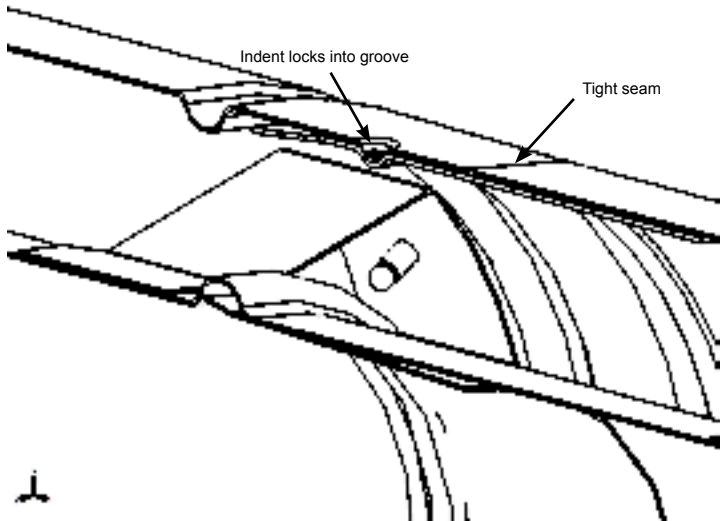

Figure 10
- The joint is not sealed unless the seam between the two outer sections of pipe is tight and the indent locks into the groove. See Figure 10.
4. The outer pipe sections should not have a visible gap. See Figure 10.